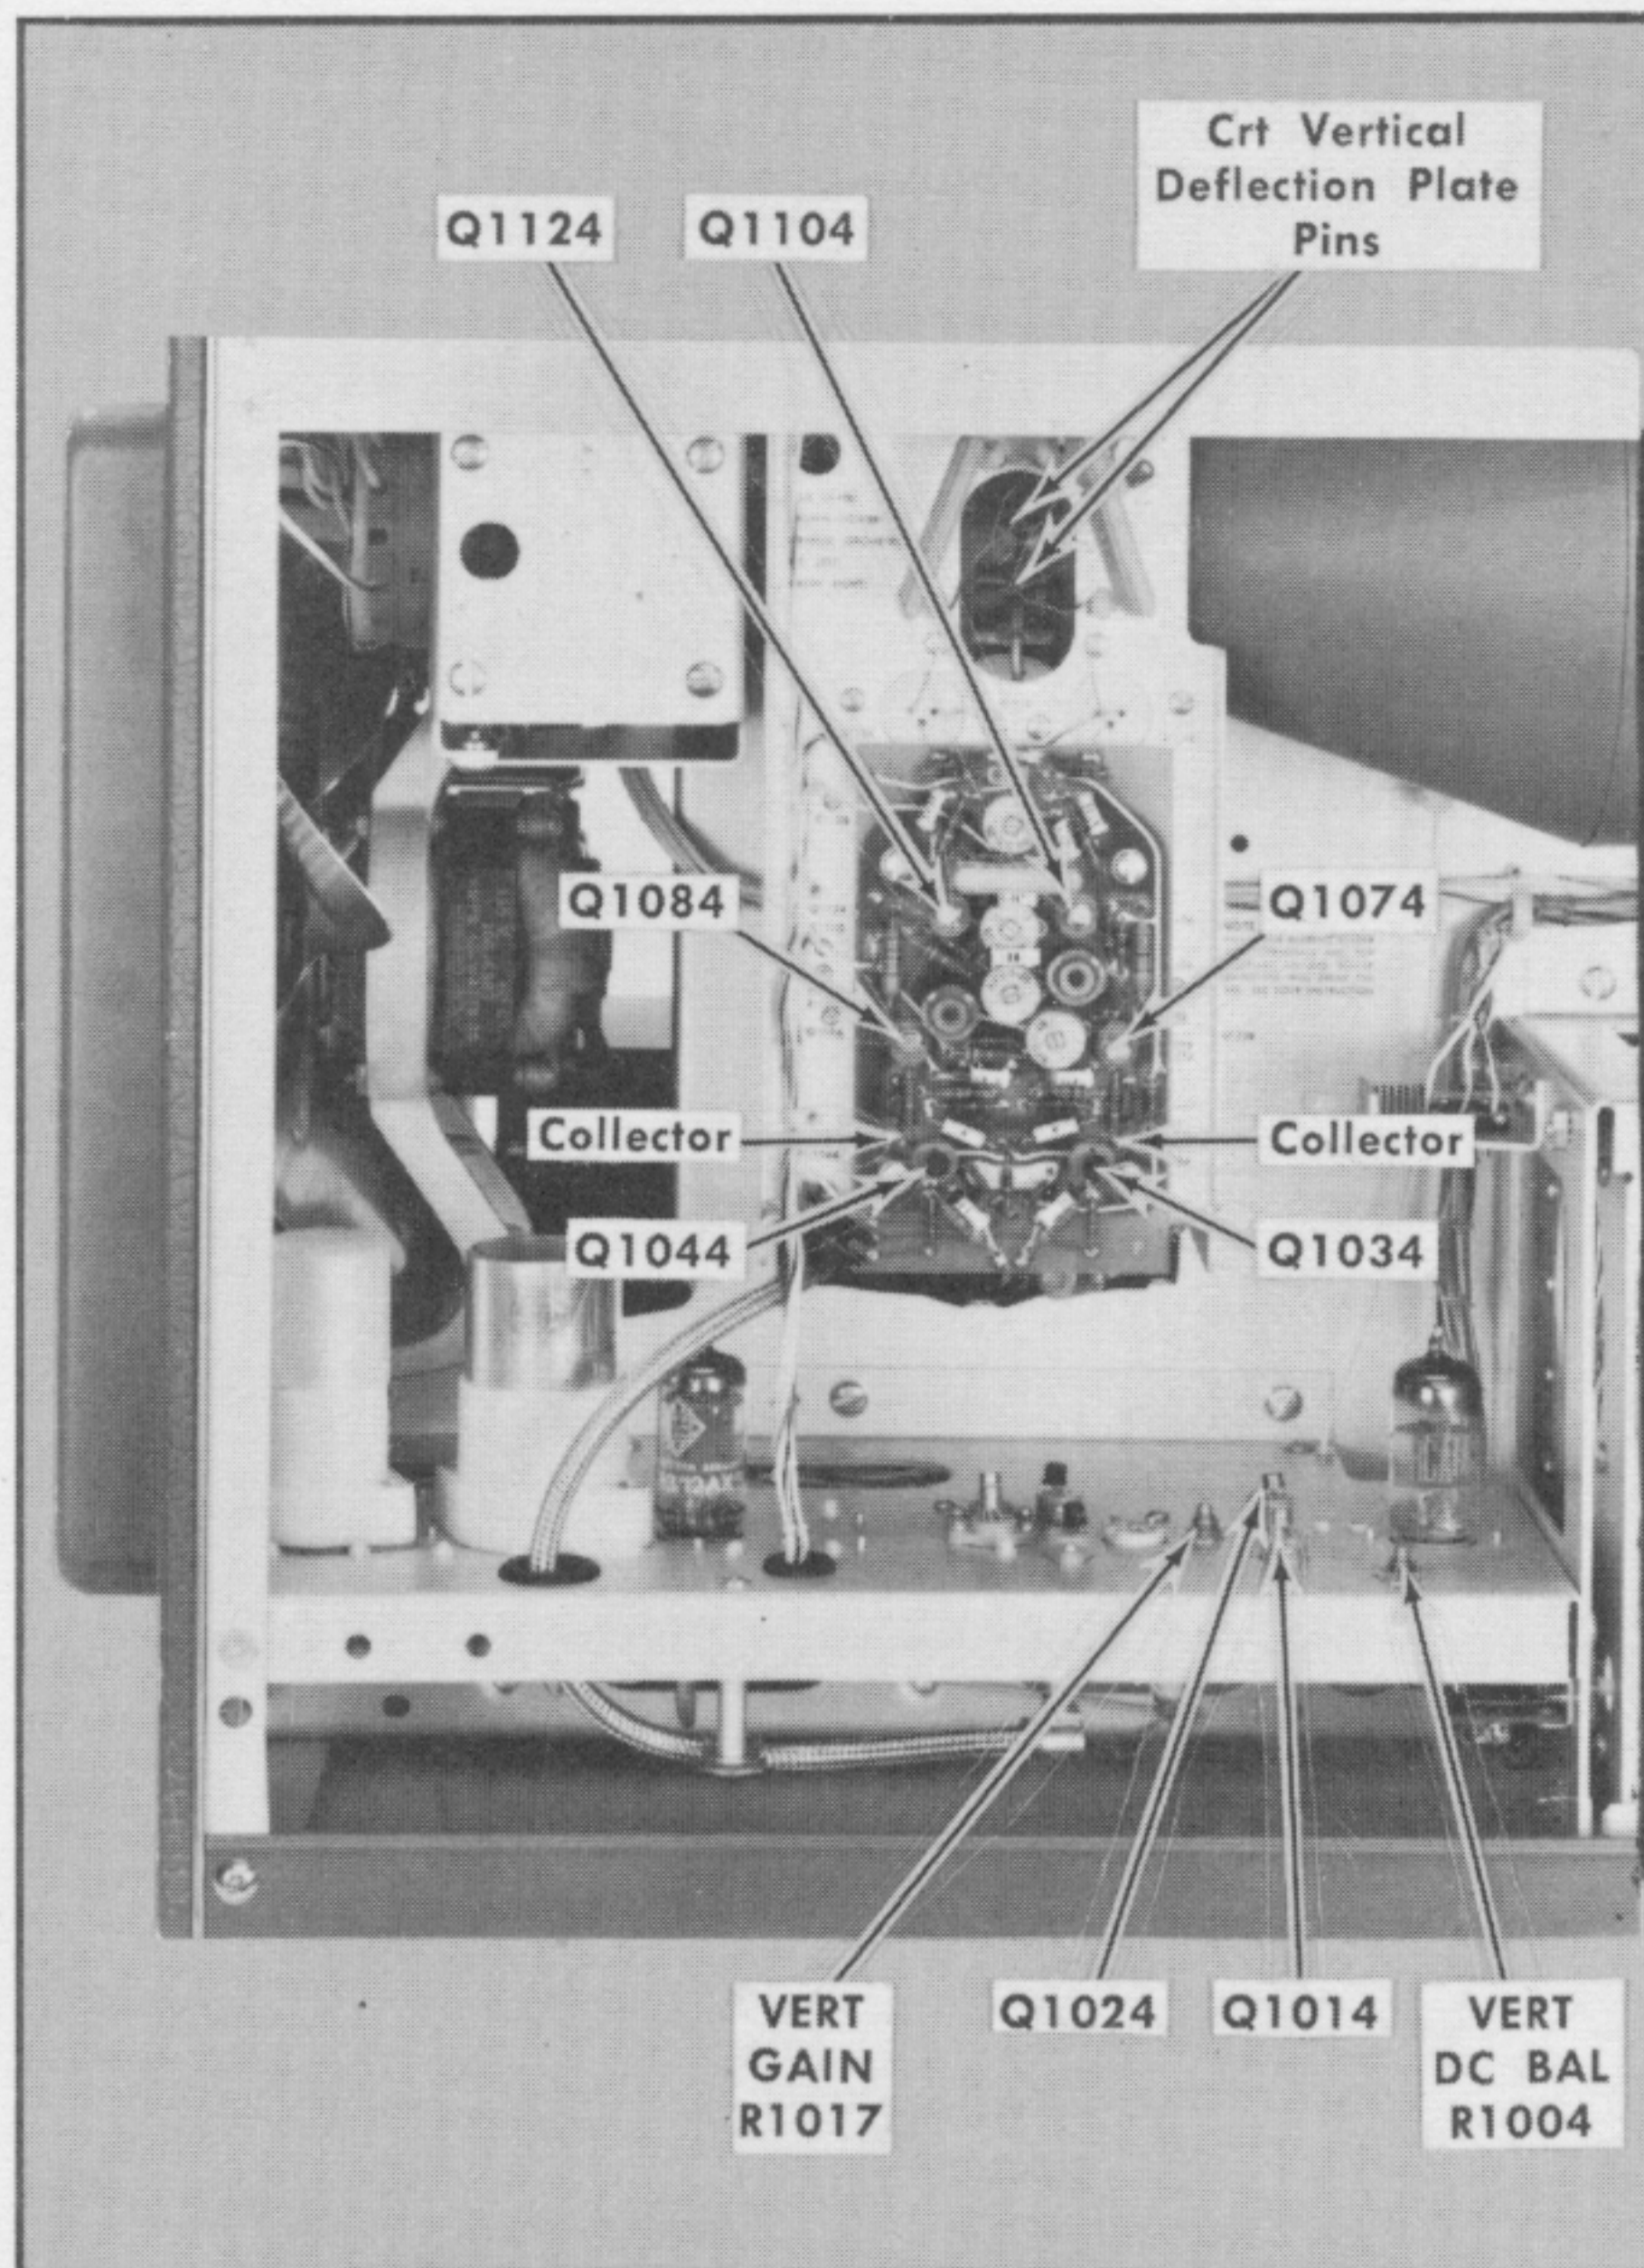

Fig. 5-4. Vertical Amplifier test point and adjustment locations for performing steps 9 and 10.
- a. Using a small screwdriver, short the crt vertical deflection plate pins together (see Fig. 5-4).
- d. Short the cases of Q1104 and Q1124 (see Fig. 5-4) together (not to ground) and note the deviation of the trace from electrical center. Deviation should not be more than 0.5 cm maximum. Remove the short.
- e. Short the casts of Q-1074 and Q1084 together (see Fig. 5-4) and note the trace deviation from electrical center. Deviation should not be more than 0.5 cm maximum. Remove the short.
- f. Short the collector of Q1034 to the collector of Q1044 (see Fig. 5-4) and note the trace deviation from electrical center. Deviation should not be more than 0.5 cm maximum. Remove the short.
- g. Short the cases of Q1014 and Q1024 together (see Fig. 5-4) and note the trace deviation from electrical center. Deviation should not be more than 0.5 cm maximum. Remove the short.
- i. Adjust the VERT DC BAL control R1004 (see Fig. 5-4) to position the trace to the center of the graticule.
- e. Adjust the VERT GAIN control R1017 (see Fig. 5-4) so the display vertical deflection is exactly four centimeters in amplitude.
- b. Insert a BNC T connector (item 13) between the AMPLITUDE CALIBRATOR connector and the coax cable.